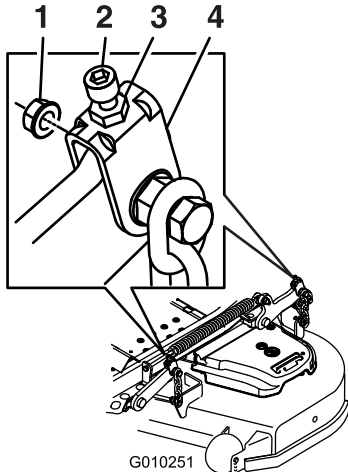

Figure 89
10. If needed, loosen the whizlock nut on the side of the yoke and the jam nut on top (Figure 89).
17. Fine tune the screw adjuster by turning it to get 8.3 mm (3-1/4 inches) height (Figure 89).